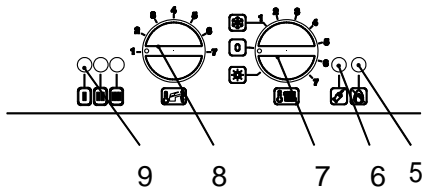

Figure 5.2
- 2 Turn on the electricity supply to the boiler, switching on the circuit breaker. The appliance operation light 9 (figure 5.2) will flash every 4 seconds (stand-by condition).